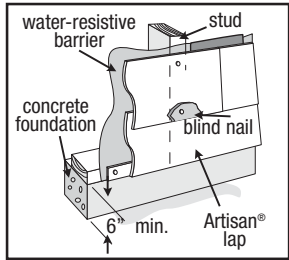

FIGURE 7
- Install James Hardie® products with a minimum 6" clearance to the finished grade on the exterior of the building or in accordance with local building codes if greater than 6" is required (fig. 7).